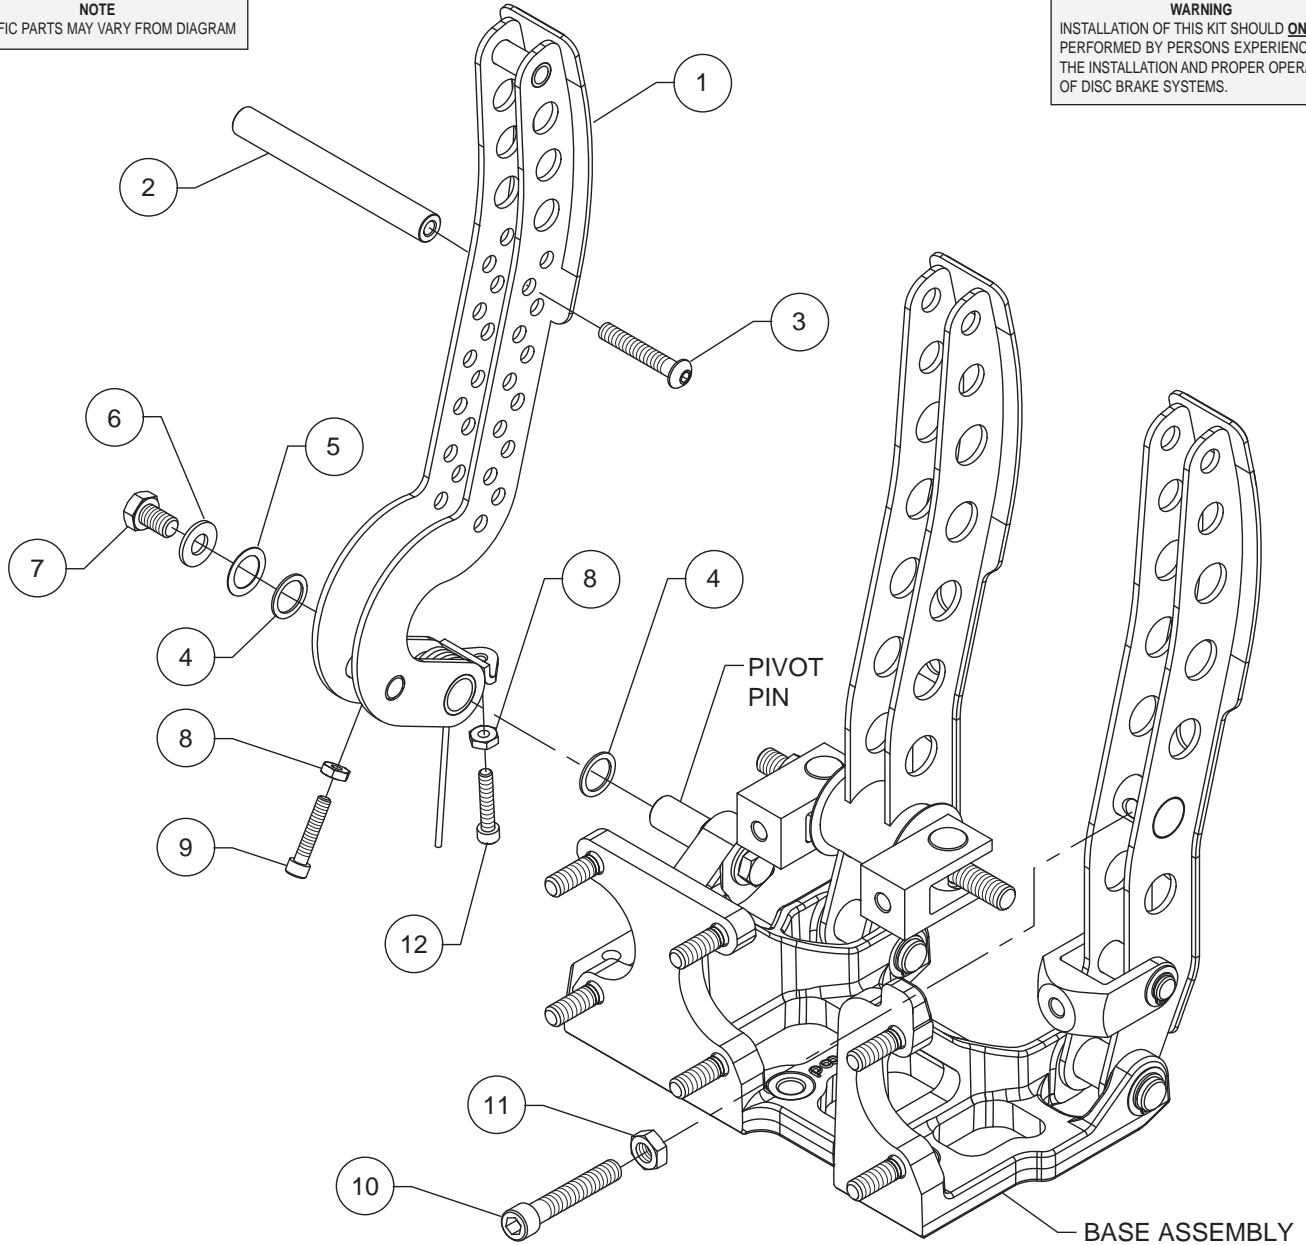
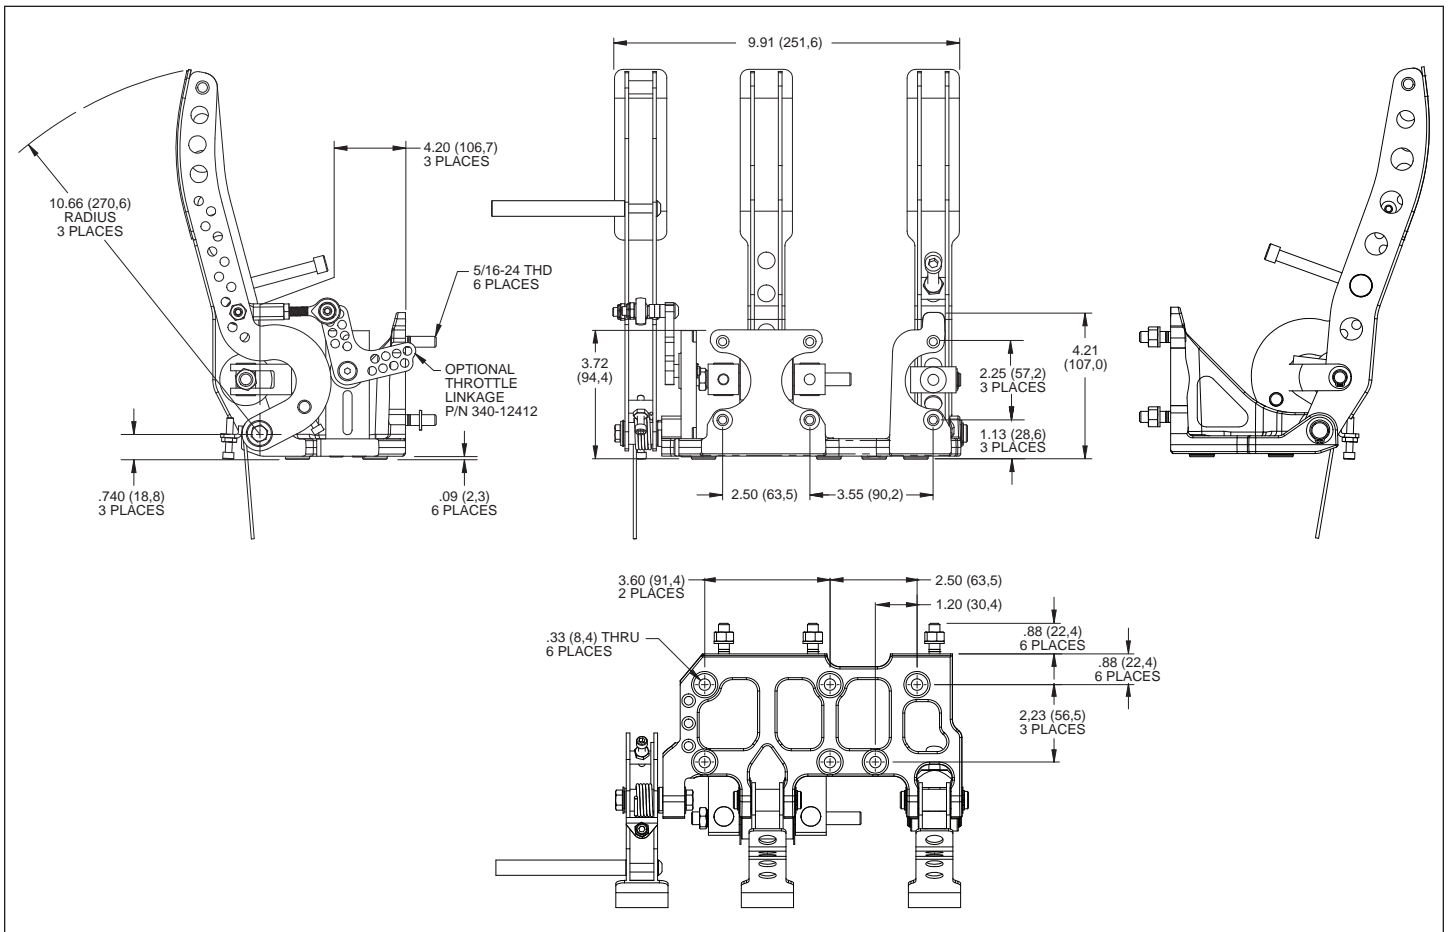

Figure 1. Typical Installation Configuration, For Rear Engine Cars, Part Number 340-12410
Figure 3. Floor Mount Triple Pedal Assembly, Physical Dimensions (shown with optional throttle assembly)
Assembly Instructions • Part Number 340-12410 (numbers in parenthesis refer to the parts list and Figure 1 on page 3):
- Install the throttle pedal (1) to the base assembly by sliding shim (4) and the pedal onto the pivot pin. Secure using one .035 thick shim (4), one .015 shim (5), washer (6) and bolt (7) as shown in Figure 1. Temporarily tighten the bolt to 18 ft-lbs. Check that the pedal moves freely without binding. If too tight or too loose, add or subtract shims (5) to obtain the correct pedal movement. After the pedal adjustment is finalized, remove the bolt, apply red *Loctite*[®] 271 to the threads and torque to 18 ft-lbs.
- Screw the throttle pedal stop bolts (9) into nuts (8) and then into the throttle pedal (1), front and rear. **NOTE:** Final adjustment of the stop bolts will be performed after pedal installation in vehicle.
- Screw the clutch stop bolt (10) into nut (11) and into the clutch pedal. **NOTE:** Final adjustment of stop bolt will be performed after pedal installation in vehicle.
- NOTE:** For rear engine installation only. Install the rear throttle pull rod (2) to the throttle pedal (1) using bolt (3).
- Refer to page 5 and Figure 3 for vehicle installation instructions and mounting dimensions.
- Mount the final pedal assembly to the floor using six .33 (8,4) through holes as shown in Figure 3. Attach the pedal assembly to sturdy beams or plates with six 5/16 inch bolts. Pedal assembly must be rigidly attached to frame and not deflect under heavy pedal forces. **NOTE:** Pedals must be free from obstructions over their entire range of motion. Allow enough space so balance bar adjustments can be made and master cylinders are accessible.